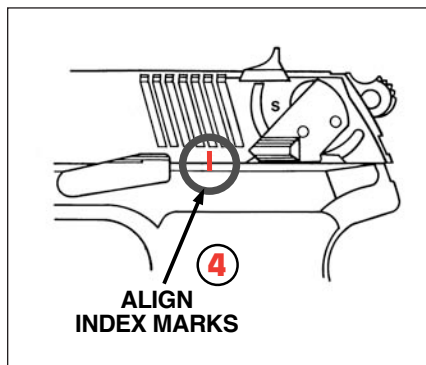
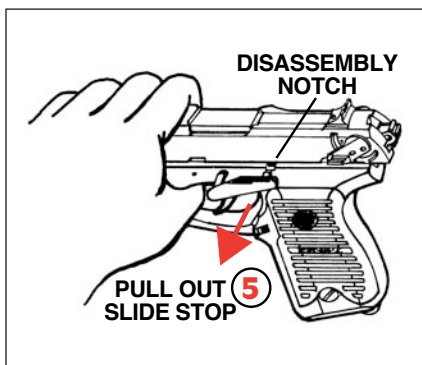

FIGURE 5
FIGURE 6
4. Remove fingers from ejection port. Grasp slide tightly. Now press down on slide stop and allow slide to move slowly forward until the vertical disassembly line on the frame is aligned with the vertical disassembly line on the slide (see Figure 5, above). Press in on right-hand end of slide stop and pull slide stop out of frame to the left until it is withdrawn completely out of the frame. (See Figure 6, above.)